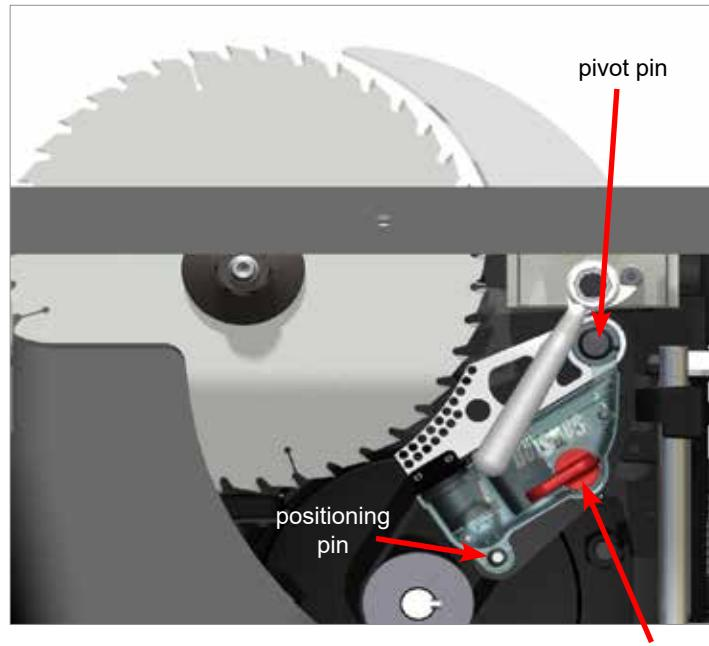
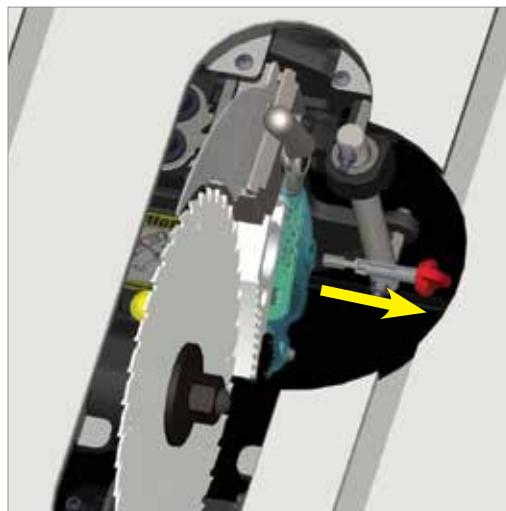
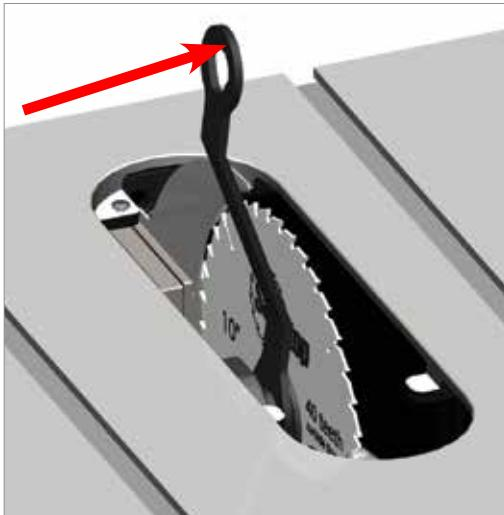
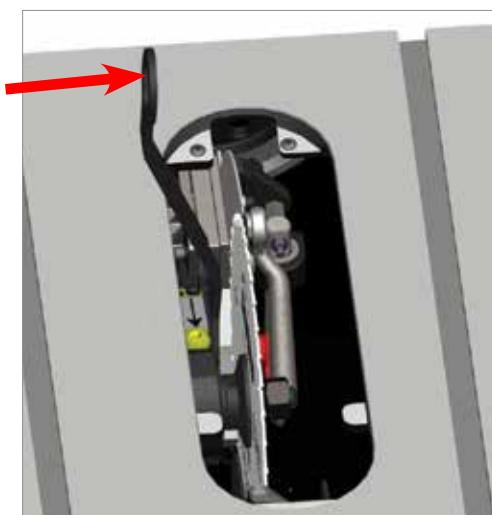

Fig. 93
Fig. 94
Fig. 96
Fig. 97
The brake cartridge is mounted on a large pivot pin and a smaller positioning pin as shown in Fig. 93. Both the pivot pin and positioning pin extend outward from a cartridge mounting bracket that sets the position of the cartridge. The cartridge mounting bracket also holds a computer cable that self-aligns to the connector in the side of the cartridge. A cartridge key is used to lock the brake cartridge in place against the cartridge mounting bracket.
To remove the cartridge, first remove the cartridge key by turning it 90° clockwise and then pulling it away from the cartridge (see Fig. 94). Set the cartridge key aside for use with the new cartridge.
If the cartridge has been activated, the brake pawl typically will be locked onto the blade or dado set. As a result, it is usually easiest to remove the blade and the brake cartridge together. To remove the cartridge and blade together, first remove the blade nut and washer, and then remove the cartridge key by turning it 90° clockwise and pulling it away from the cartridge (see Fig. 94). You can remove the blade and brake cartridge simultaneously by alternately moving the blade and then the cartridge to the right to “walk” them off the arbor and pins. Often you can “walk” them to the right by hand, but if not, you can use a blade wrench as a lever. To do this, place one end of the wrench between the blade and the side of the arbor block, being careful to maneuver around the dust shroud. Now push the blade a short distance away from the arbor flange (see Fig. 96 on the next page). **Do not place the wrench against the dust shroud because the dust shroud could break.** Next, place the end of the wrench between the brake pawl and the cartridge mounting bracket to gently pry the cartridge away from the arbor block a short distance (see Fig. 97 on the next page). Only move the blade and cartridge a short distance each step, for example, a distance equal to one or two threads on the arbor. Otherwise the brake cartridge may bind on the arbor and pivot pin. Repeat these alternating steps to walk the cartridge and blade off. A significant force may be needed to pry the cartridge off the mounting pin if the brake pawl deformed and pinched the pivot pin when it stopped the blade.
To install a brake cartridge, the above process is reversed. Align the mounting holes in the cartridge with the pivot pin and positioning pin in the saw (see Fig. 93 on page 59) Slide the cartridge onto the pins until the cartridge rests against the mounting bracket. The cartridge will automatically align with a computer cable mounted in the saw.
Next, insert the cartridge key into the hole in the cartridge housing (see Fig. 94 on page 60). The key shaft has a ridge that must be aligned with a channel in the hole. As a result, the key can only be inserted into the hole when the red handle is pointing toward the brake pawl (as shown in Fig. 94 on page 60). Insert the key fully into the hole and rotate the key 90° counter-clockwise to lock the cartridge in place (Fig. 93 on page 59 shows the key in its locked position). The key will not rotate unless it is fully seated against the side of the cartridge housing and the cartridge housing is pressed against the cartridge mounting bracket.